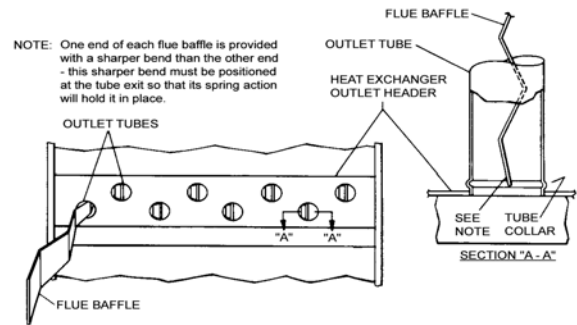

Figure 4 - Typical flue baffle installation
5. On the inside of the flue collector box, remove the flue baffles from the tube interiors. Note the last bend of the baffle fits tightly against the tube forcing the end of the baffle to lock into the tube collar. This collar is formed when the tube is expanded into the end sheet. To remove, move the end of the baffle towards the center of the tube releasing the end of the baffle from the tube collar, then pull it out of the tube. See Figure 4.